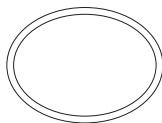

Fig.7
- Universal® Outer Lid Pressure Cookers are equipped with a silicone gasket, located on the lid; its function is to seal the lid with the body of the pressure cooker. (See Fig.7)